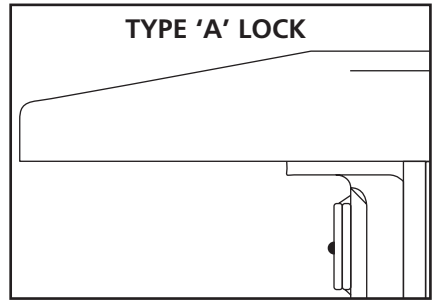

FIGURE 1
8. Visually check to see that the kingpin is in the fifth wheel locks, not overhanging the fifth wheel or caught in a grease groove. There should be no gap between the trailer bolster plate and the fifth wheel. (See **FIGURE 1**.) Check for proper coupling by looking into the throat of the fifth wheel. Check the locks as shown in **FIGURE 1** for Type "A" locks.